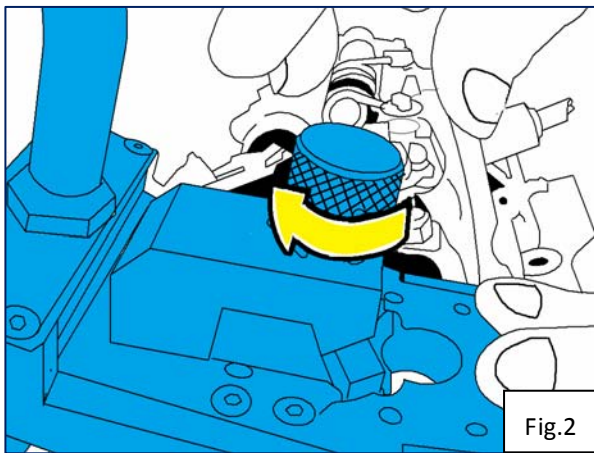

Fig.2
2. After fitting the tool, keep turning the knurled knob on the tool (Fig.2) until the tabs hold and lock the valve spring solidly (Fig.3).